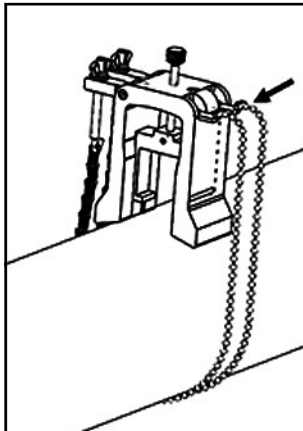

Figure 37: Yoke Chains Secured
3. Wrap the yoke chains around the pipe and secure them to the yoke bracket, as shown in Figure 37 below.